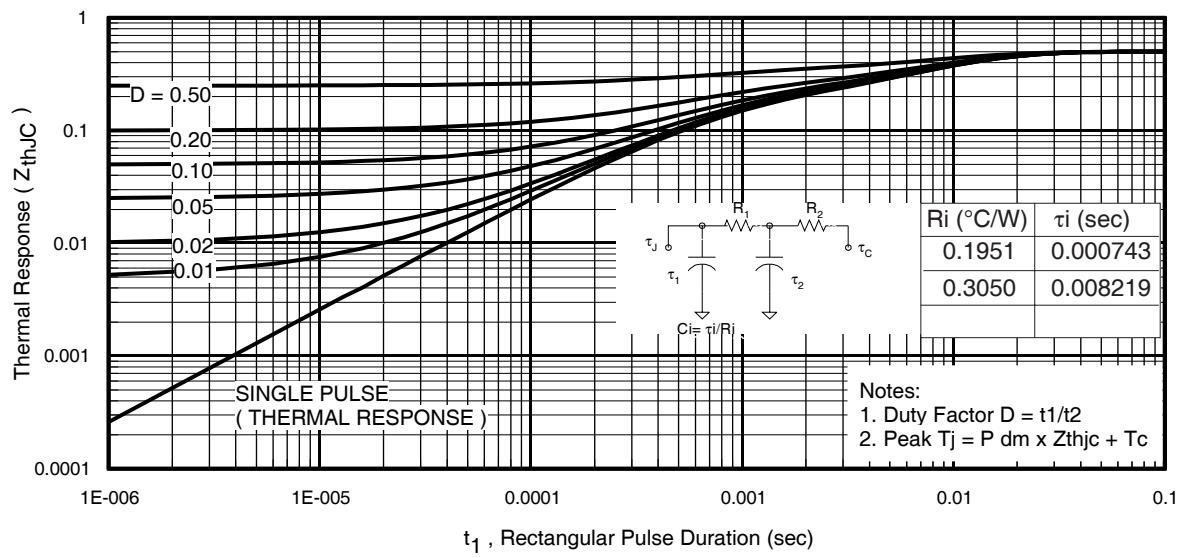
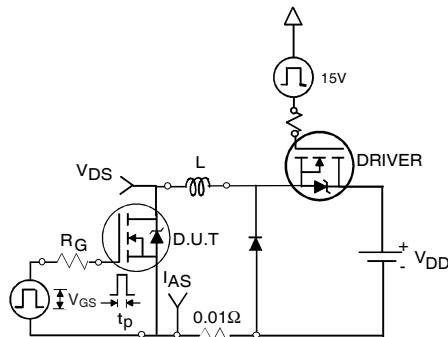

Fig 11. Maximum Effective Transient Thermal Impedance, Junction-to-Case
Fig 12a. Unclamped Inductive Test Circuit
- ① Repetitive rating; pulse width limited by max. junction temperature. (See fig. 11).
- ② Limited by $T_{J\max}$, starting $T_J = 25^\circ\text{C}$, $L=0.049\text{mH}$, $R_G = 25\Omega$, $I_{AS} = 160\text{A}$, $V_{GS} = 10V$. Part not recommended for use above this value.
- ③ Pulse width $\leq 1.0\text{ms}$; duty cycle $\leq 2\%$.
- ④ $C_{oss\ eff.}$ is a fixed capacitance that gives the same charging time as C_{oss} while V_{DS} is rising from 0 to 80% V_{DSS} .
- ⑤ Limited by $T_{J\max}$, see Fig.12a, 12b, 15, 16 for typical repetitive avalanche performance.
- ⑥ This value determined from sample failure population. 100% tested to this value in production.
- ⑦ This is applied to D²Pak, when mounted on 1" square PCB (FR-4 or G-10 Material). For recommended footprint and soldering techniques refer to application note #AN-994.
- ⑧ R_θ is measured at T_J of approximately 90°C .
3. Equation below based on circuit and waveforms shown in Figures 12a, 12b.
- $Z_{thJC}(D, t_{av})$ = Transient thermal resistance, see figure 11)